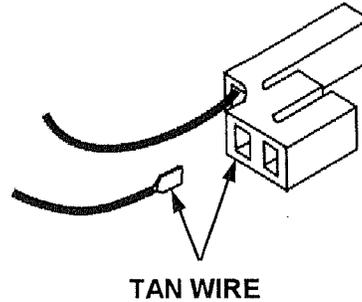

FIGURE 23 INTERLOCK CONNECTOR BODY
6. (See figure 23) Remove the tan wire from the connector body. Use a small screwdriver (1/16" blade) insert into the front of the connector to release the locking tab.